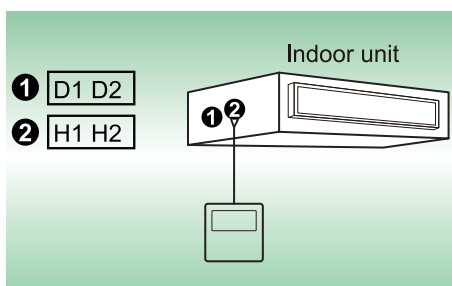
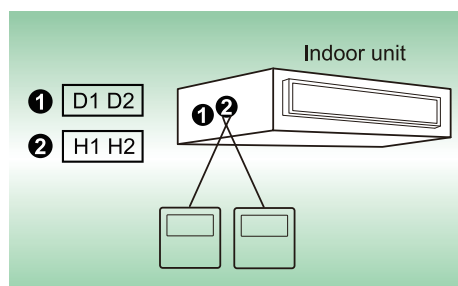
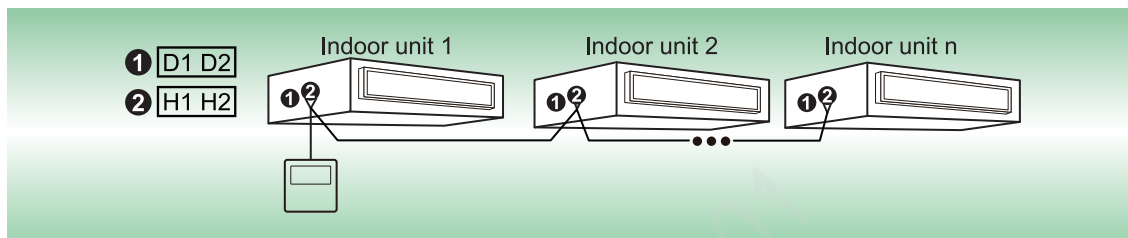
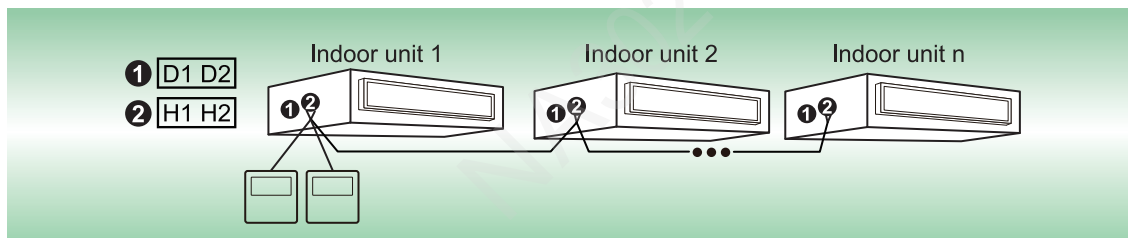

Figure 1 One receiver controls one indoor unit
Figure 2 One receiver and one wired controllers control one indoor unit
Figure 3 One receiver controls several multi VRF IDUs simultaneously
Figure 4 One receiver and one wired controller control several multi VRF IDUs simultaneously
- When the remote signal receiving LED panel is connected with multi VRF unit, the wiring methods as shown in Figure 1, Figure 2, Figure 3 and Figure 4 can be adopted, but please pay attention to the
- ① When one remote signal receiving LED panel or one remote signal receiving LED panel and one wired controller control several indoor units simultaneously, the remote signal receiving LED panel can connect any indoor unit, but the connected indoor unit shall be of the same indoor unit series and the connected indoor unit shall be in the same multi VRF system. When it is applied together with the wired controller, please set the indoor unit quantity of group control in the wired controller.
- ② When the remote signal receiving LED panel controls several indoor units simultaneously, the settings for all indoor units are the same.
- b. In the wiring methods as shown in Figure 2, Figure 4, there can't be two remote signal receiving LED panels simultaneously and only one wired controller and one remote signal receiving LED panel are allowable in the same system. The wired controller can be set as master or slave wired controller and the remote signal receiving LED panel address will switch automatically (no need to set remote signal receiving LED panel address manually) according to the wired controller address (master/slave wired controller). The total quantity of remote signal receiving LED panel and wired controller can't exceed two.